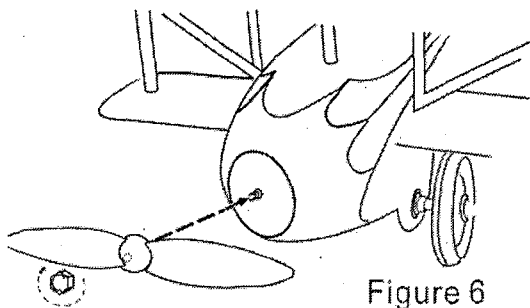

Figure 6
Step 4 : Twisting the head nut in Clockwise direction by hand, screw the head nut onto the front screw of Airplane nose. Shown as Figure 6